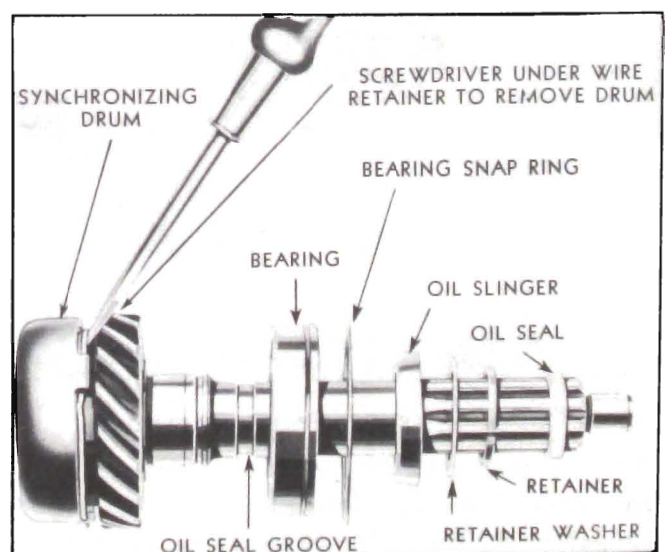

Figure 4-47—Disassembly of Main Drive Gear—Series 40-50
11. Disassemble main drive gear if any parts are to be replaced. Remove synchronizing drum by prying retainer over shoulder on gear, leaving retainer in drum. Remove oil seal, retainer (snap ring), washer, and oil slinger from drive gear, then remove bearing by jarring shaft on block of wood or lead. See figure 4-47. Remove main shaft pilot roller bearing by removing retainer (snap ring) and retainer washer.